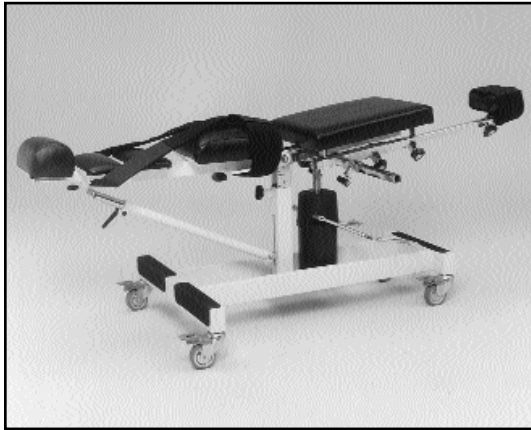

Figure 4.25 Multi-Support Pad placement (Double Chair).
3. Fully recline the SEATBACK and instruct subject to lie prone on seat with leg to be tested closest to the powerhead. If necessary to support opposite limb, position MULTI-SUPPORT PAD under anterior tibia. See Figures 4.25 and 4.26.